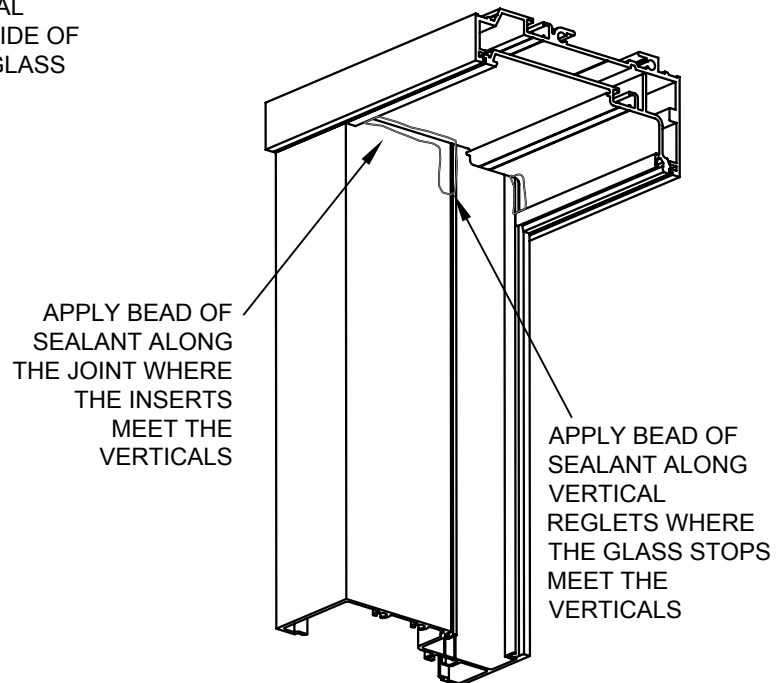

FIGURE 3
STEP G: At the head condition, apply a bead of sealant along the vertical where the glass stop meets the vertical and also along the joint between the head insert and the vertical. (Figure 3)
- STEP F:** Install glass in the frame opening (Figure 3). Install temporary glass retainers to hold glass in place. Retainers should be spaced a maximum of 30" on center. If high wind load conditions are anticipated, additional retainers may be needed. Consult your sealant and glass supplier for spacing recommendations.